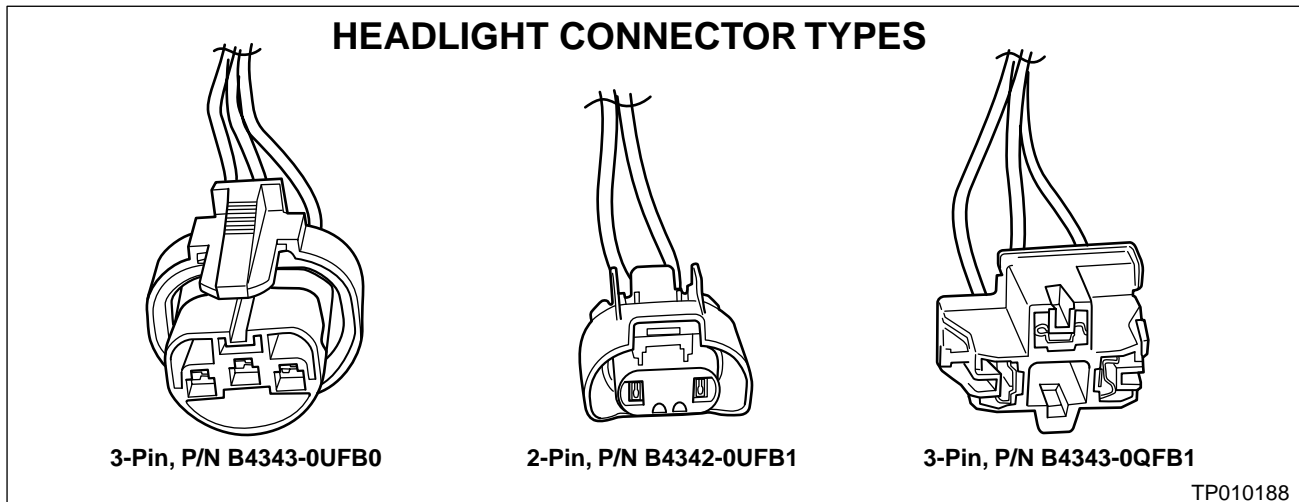

Figure 7
* See Figure 7 below for connector type differences.